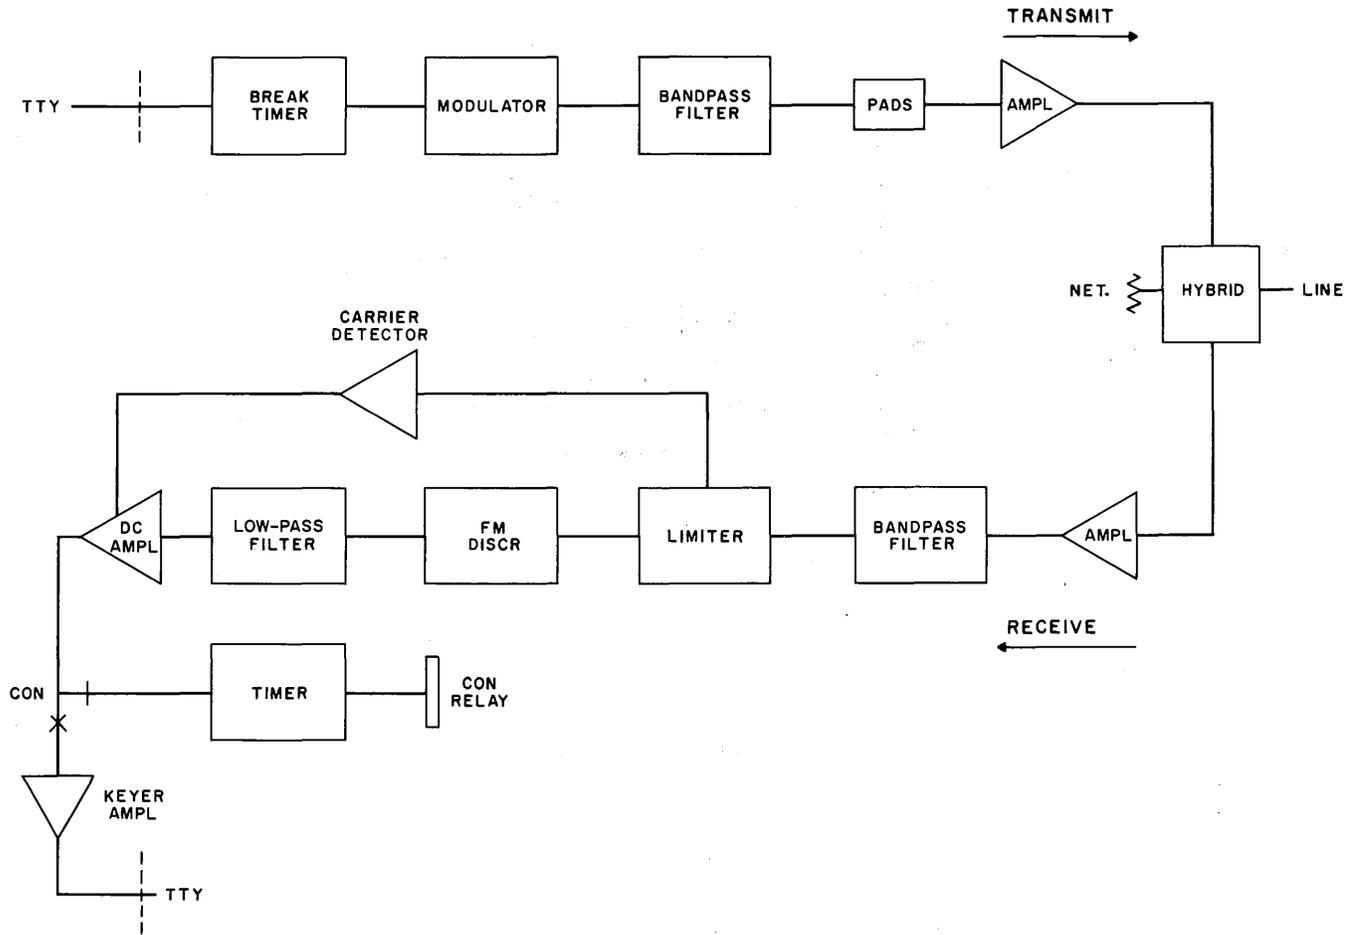

Fig. 5—Data Set 101A—Block Diagram
- 1.06 Fig. 5 is a simplified block diagram of Data Set 101A.